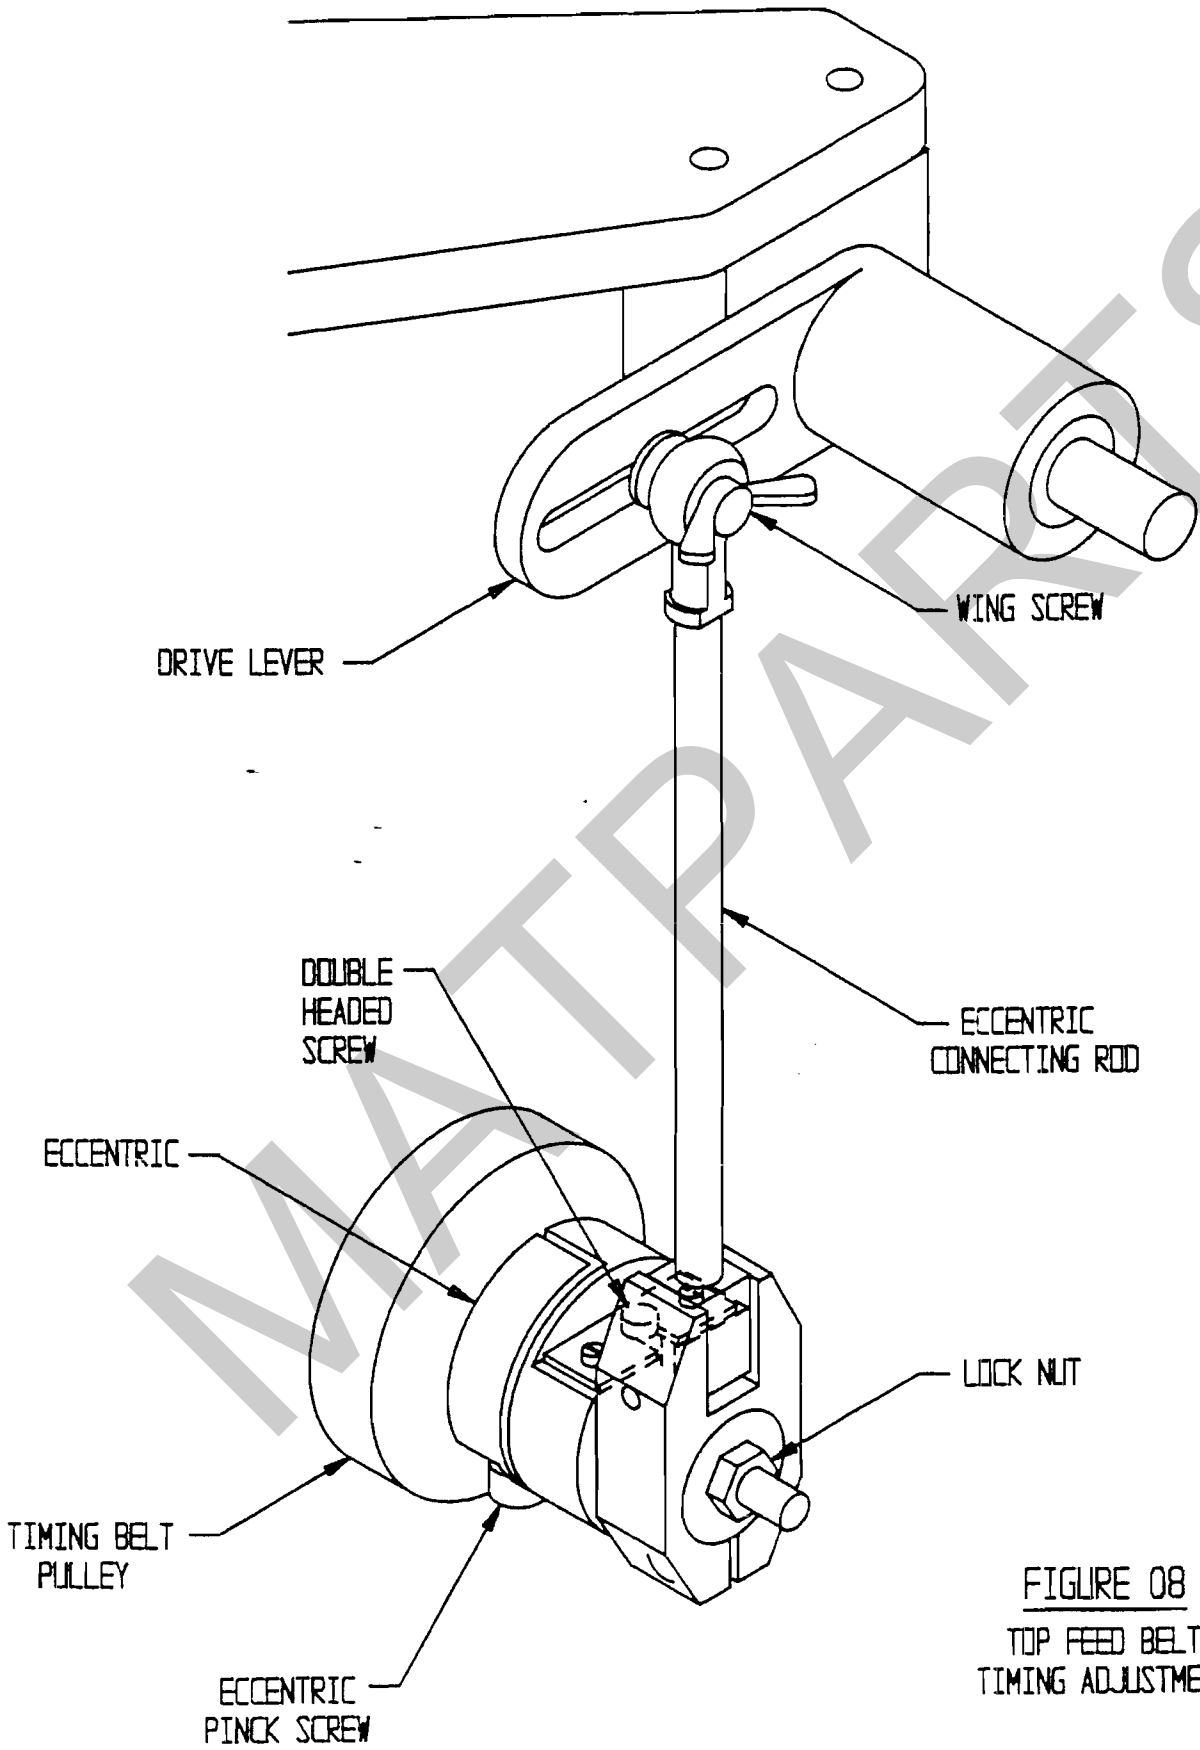

FIGURE 08
Because of varied thickness' and combinations of materials, the top feed belt may require adjustment of its feed stroke length to obtain smooth stitching. Refer to Figure 08 for location of adjustment components. Primary adjustment is obtained using the double-headed adjusting screw. To set, first loosen the lock nut indicated on Figure 08. Then turn the double-headed screw, turning clockwise to reduce belt feed, and counter-clockwise to increase feed. Change the setting in small increments to reduce "hunting" for the correct setting. Tighten the lock nut and check feed under power. Repeat the adjustment as necessary. If the belt feed is off by just a small amount, a fine adjustment may be made by loosening the wing screw at the top of the eccentric connecting rod. Move the screw in the slot in the drive lever, toward the shaft to increase the belt feed stroke, or away from the shaft to decrease the belt stroke. Tighten the wing screw and test feed.
B. Timing Top Feed To Bottom Feed (Figure 08)